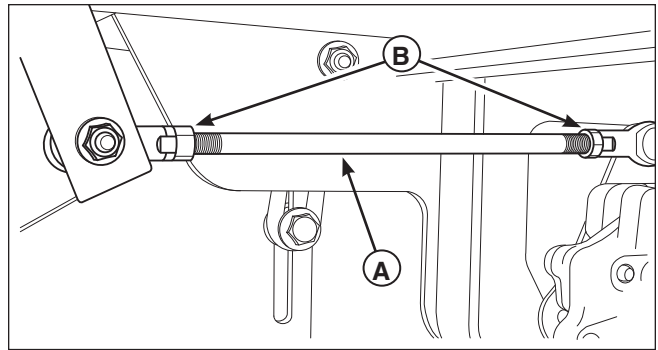

Figure 29. Neutral Return Adjustment
2. There are two nuts (B, Figure 29) on the linkage rod. Loosen the nuts from the ball joints and turn the linkage rod (A) to adjust. If the machine creeps forward, turn the rod **CLOCKWISE** (while standing at the rear of the machine, facing forward), if the machine creeps backward, turn the rod **COUNTERCLOCKWISE**.
3. Lock the nuts (B) against the ball joints when neutral is achieved.